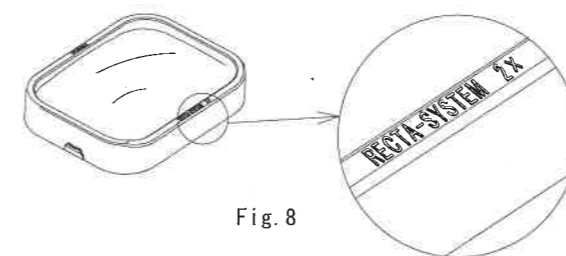

Fig. 8
- Insert it in the direction where letters of the rubber frame (RECTA-SYSTEM 2X (3.5X) 、OTSUKA) are seen in the front. (Fig.8)